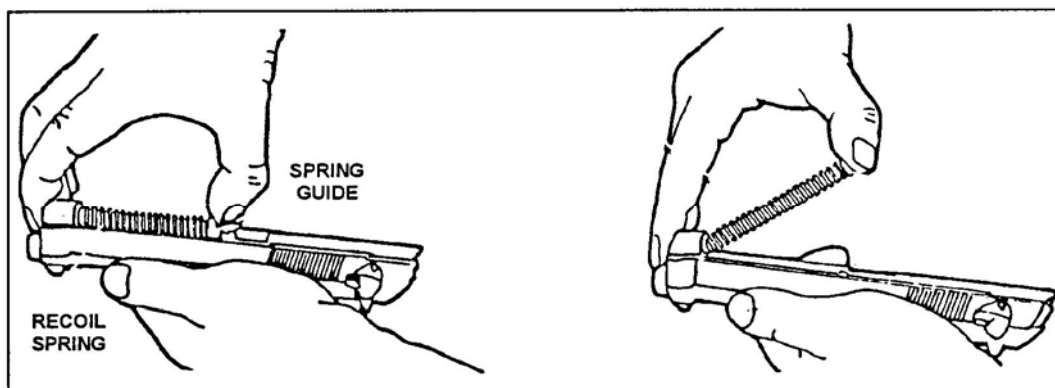

Figure 2. Removal of the recoil spring and spring guide.
- f. Slightly compress the recoil spring and spring guide. At the same time, lift them up and remove them, allowing the recoil spring to stretch slowly (Figure 2).